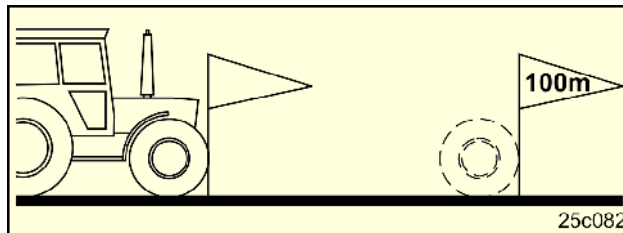

Fig. 28
- Carefully measure the test distance of 100 m in the field. Mark beginning and end of the test distance ((Fig. 28).